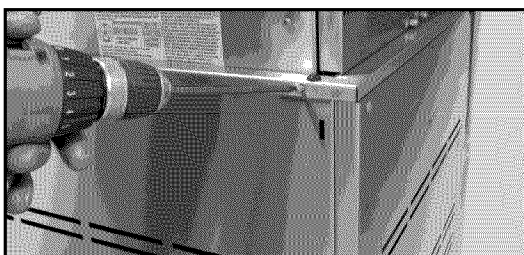

Fig. 15
4. Secure the head to rear of cart (Fig. 15) with (2) Phillips-head screws provided (10-24 x 1/2").